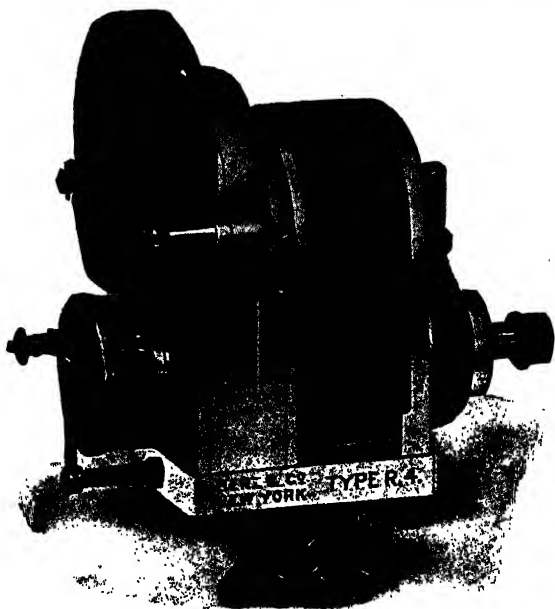

Fig. 106. Hers Magneto
*Herz Ball-Governor Type.* Another method of accomplishing the same end is the Herz automatic coupling, shown in Figs. 104 and 105. This consists of two juxtaposed disks, each of which is provided with five grooves running in a direction opposite to those of the other disk. Five steel balls are held in these grooves and act like the weights of a governor, being forced outward in direct proportion to the speed of the motor, thus imparting a twisting movement to the magneto armature with relation to its shaft. The device is supplied either as an integral part of the magneto or as an independent coupling. The range of movement is 40 degrees, the adjustment being varied by altering the curve of the grooves. Fig. 106 shows the Herz magneto. In the Eisemann, spindles having grooved slots of several different pitches are supplied, giving from 19 to 60 degrees of advance. The Atwater Kent, Connecticut, and Westinghouse ignition systems may also be had with automatic advance operated by a centrifugal governor.